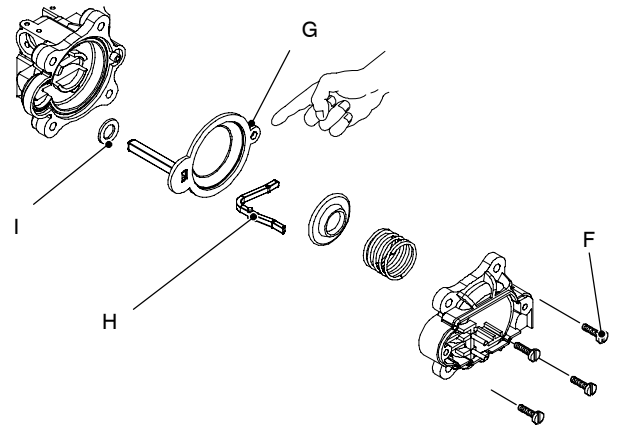

Fig. 63
- 3 Unscrew the four screws *F* (see Fig. 63) and open the hydraulic operator.